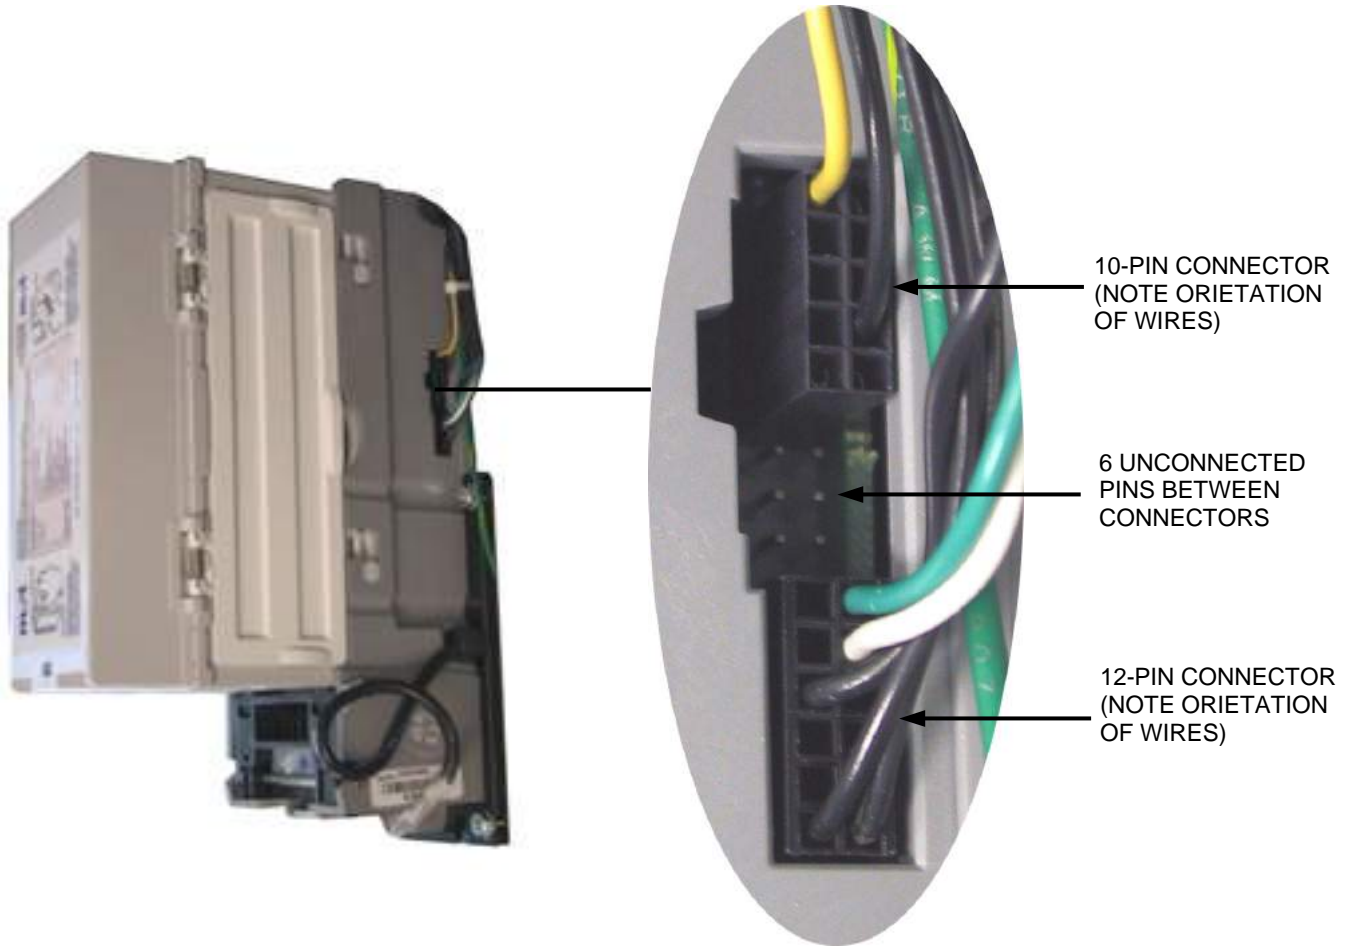

FIGURE 1 - BILL ACCEPTOR
10. Reconnect the 2 bill acceptor connectors as shown in Figures 1 and 2.